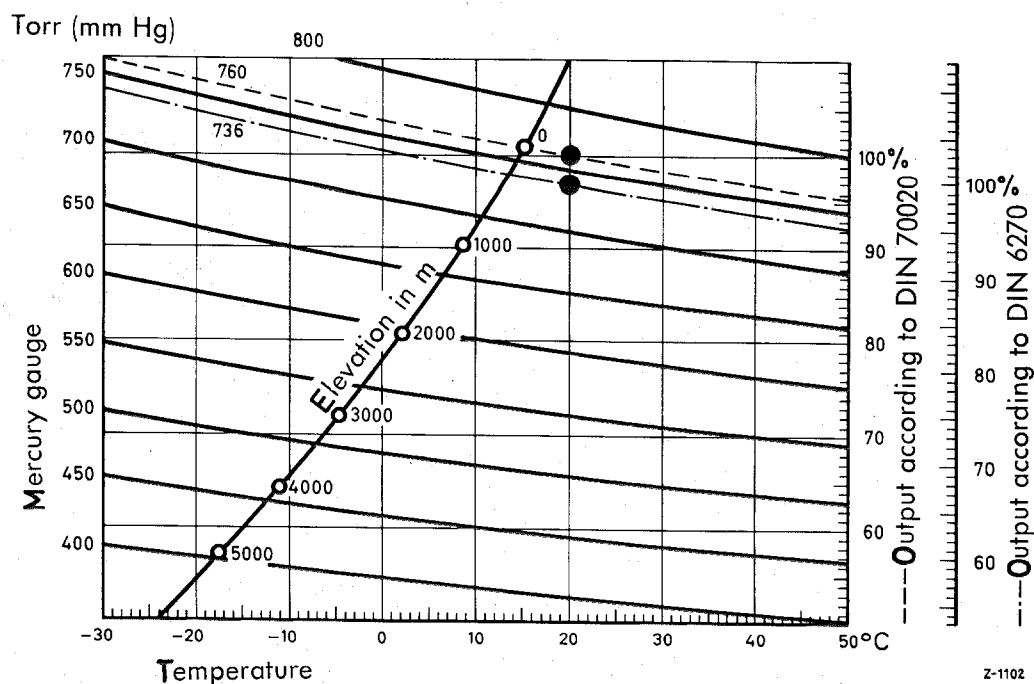

Figure 07-5/2a
On serially produced injection pumps the injection rate can be reduced by clockwise turning of the full load stop screw (8) of the control rod after removing the lead seal and loosening the lock nut (see Figure 07-5/1).